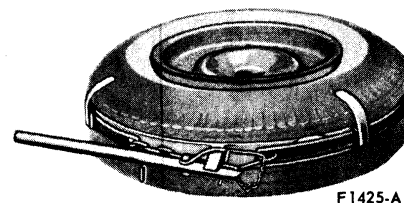

FIG. 6 Tubeless Tire Mounting Band
3. Hold the beads against the rim flanges by positioning a tire mounting band over the tire (Fig. 6). If a mounting band is not available, tie a tourniquet of heavy cord around the circumference and in the center of the tire. Tighten the cord with a tire iron. Center the tire on the wheel with a rubber mallet.